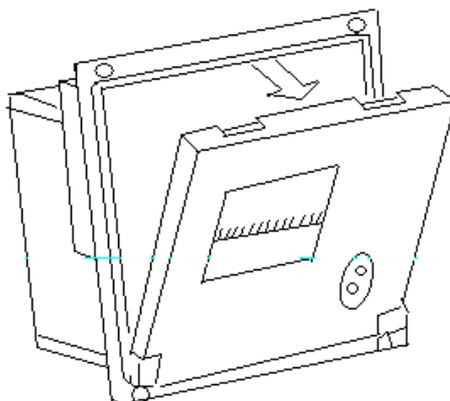

Fig.2-4 Opening the Front Cover
(1) Open the front cover of the printer as Fig. 2-4 shows;
- (1) Open the front cover of the printer as Fig. 2-4 shows;
- (2) Take down the paper roller from the printer, if there is already paper in the printer, can jump over this step to the fourth step;
- (3) Put the new paper on the paper roller, and insert it in the paper-in slot.